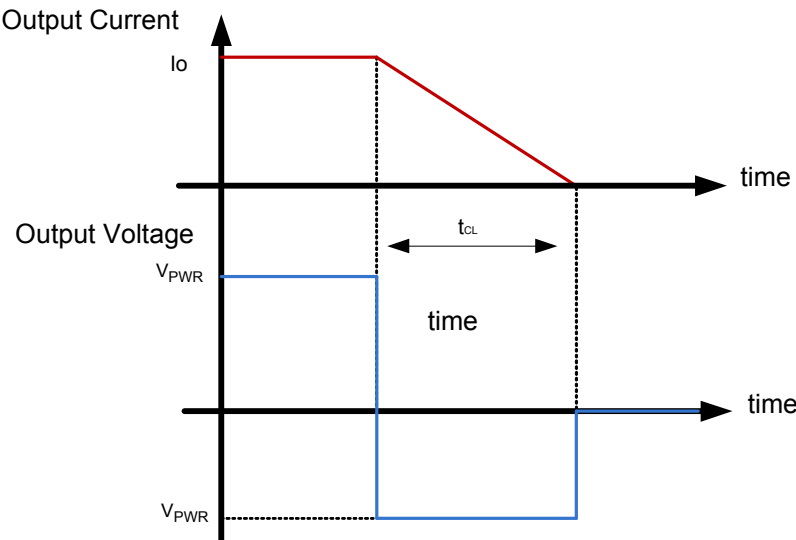

Figure 21. Simplified Negative Output Clamp Waveform
In case of an inductive load (L), the energy is dissipated after the turn-off inside the N-channel MOSFET. When $t_{CL} (= I_o \times L / V_{CL}) > 1.0 \text{ ms}$, the turn-off waveform can be simplified with a rectangle as shown in Figure 21.